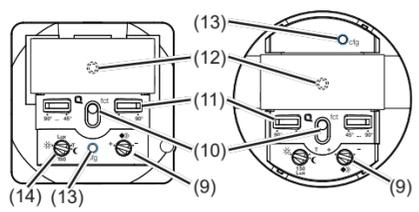

Fig. 5: Operating and adjustment elements of the bottom part of the application module
The detection angle can be restricted for the right side and for the left side via each adjuster (Fig. 5, 10) between 45° and 90° for each adjuster. This can be carried out on the device.
- Setting the test mode. To do this, set the response brightness potentiometer (Fig. 5, 13) to the T position.
- Turn the response brightness potentiometer (Fig. 5, 14) to the desired position.
- Turn the sensitivity potentiometer (Fig. 5, 9) to the desired position.